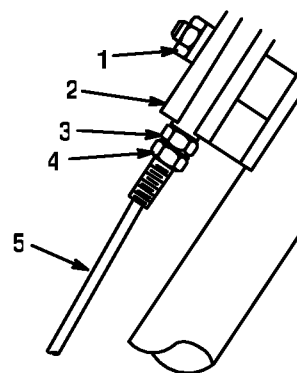

Figure 19
- Loosen nut on support block (Fig. 19).
- Loosen bottom jam nut on wheel traction cable (Fig. 19).
- Top jam nut should be against support block when adjustment is complete (Fig. 19).